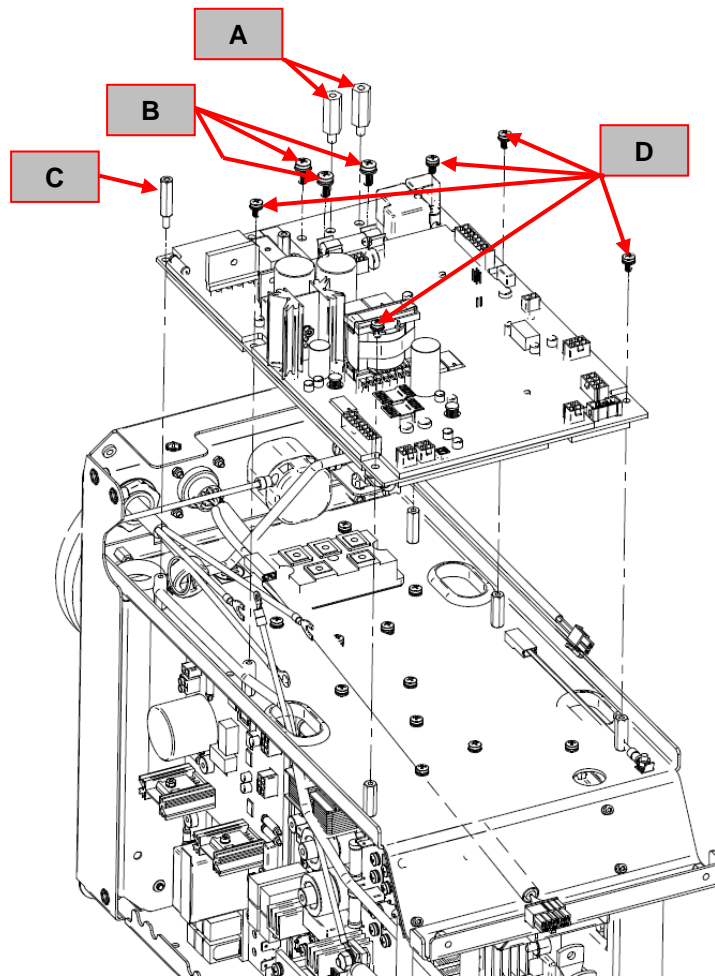

Figure 16
3. Locate the Input Power board W05X1604-2. See **Figure 16**
6. Using a screwdriver type PH02 remove the 3 screws (**B**) that are connecting the input rectifier bridge to the Input Power board. See **Figure 16**
7. Using the 6mm wrench remove the stand off (**C**) used to fix the EMI board. See **Figure 16**
8. Using a screwdriver type PH02 remove the screws (**D**) that fix the Input Power board. See **Figure 16**